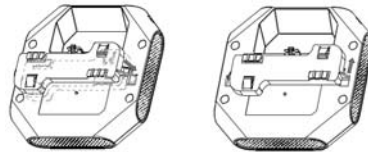

Figure 4: Attaching Ceiling Rail Adapter
- Place the adapter against the back of the AP, insert by aligning the slot on the backside with the hanging feet on both sides of the adapter (see Figure 4).
- Push the adapter along the direction of the arrow until it locks in the slot (see Figure 4).